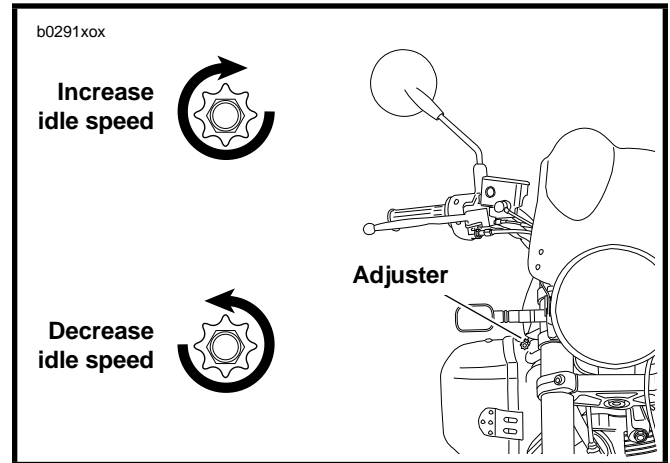

Figure 16. Idle Speed Adjuster
See Figure 16. The remote idle adjuster allows idle adjustments without use of tools. Idle speeds are listed in Table 2.
5. See Figure 16. Set idle speed by turning adjuster. See Table 2.